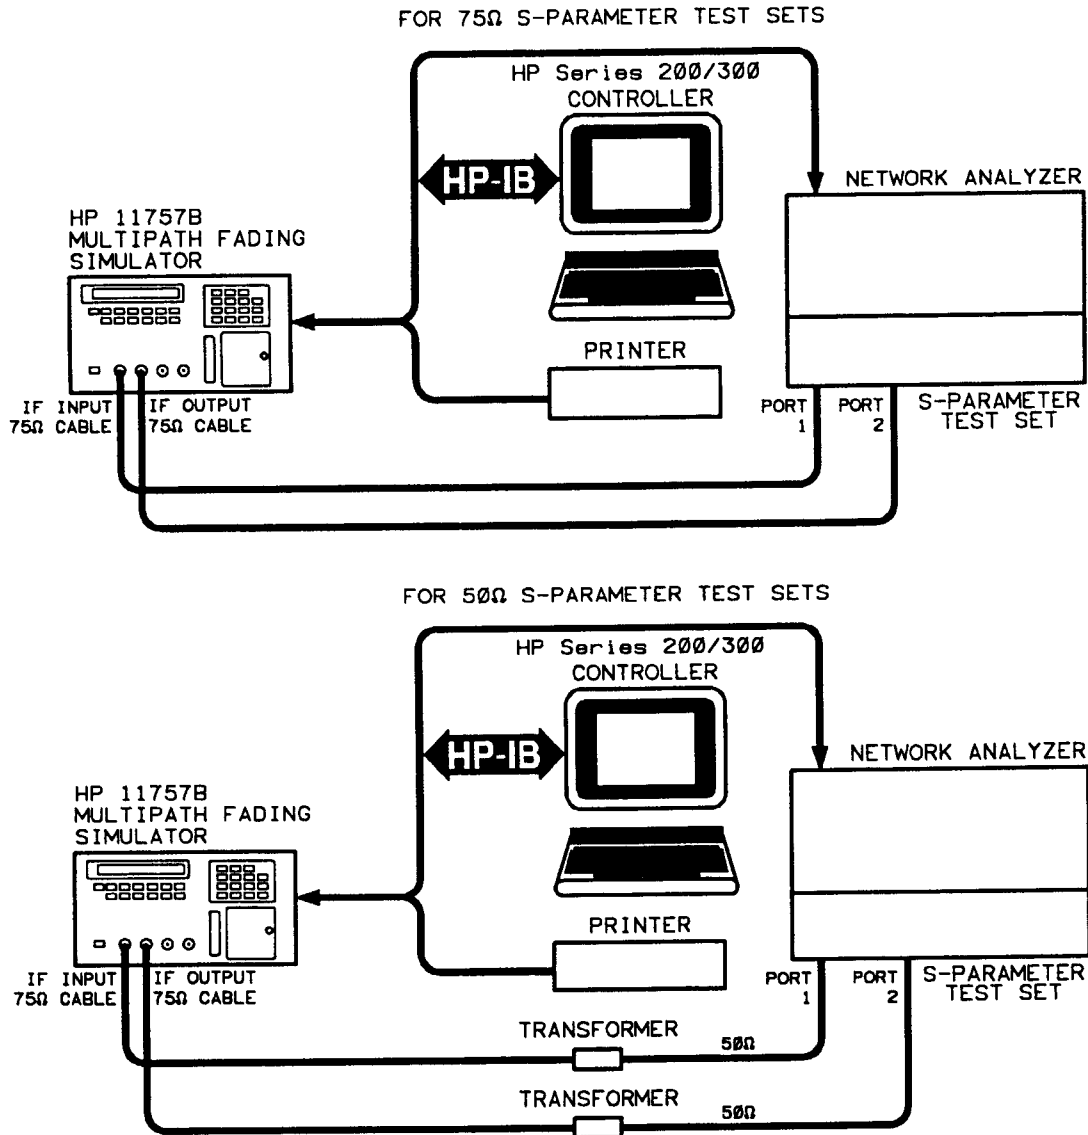

Figure 2-3. Automated Adjustment/Performance Test Setup
8. When calibration is completed, to check the insertion losses of the instrument, set a marker at 70 MHz for Standard or Option 147 instruments (140 MHz for Option 140) and set reference to marker. Connect the equipment as shown in Figure 2-3. The insertion loss of the MFS should be within 2 dB of the reference level. If the level is within limits, make a note of this level and continue with this procedure. If the level is not within limits, proceed to Failure Mode, "No or Low Output Power".